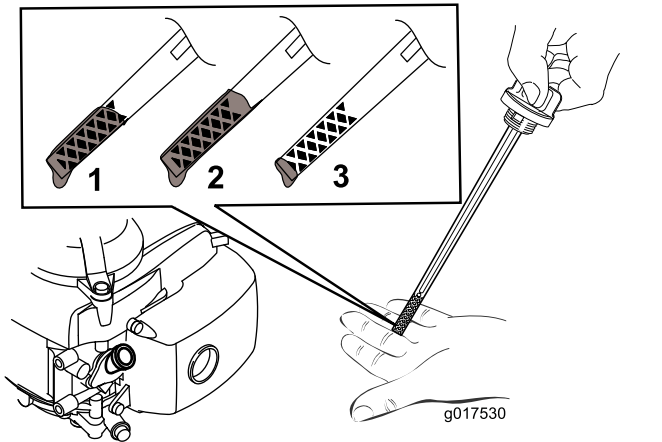

Figure 10
5. To determine the proper oil level on the dipstick, refer to Figure 10).
Note: Fill the engine crankcase with oil until the dipstick indicates that the engine oil level is correct as shown in Figure 10. If you overfill the engine with oil, remove the excess oil as directed in Changing the Engine Oil (page 14).